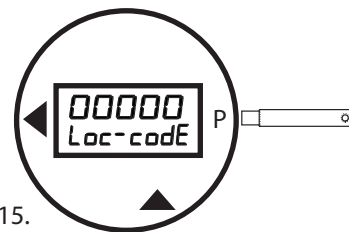

Figure 15.
- a. Hold the magnetic wand at the **P** on the right side of the register. After five seconds the register will display "Loc-codE" (Figure 15). The last digit will flash.